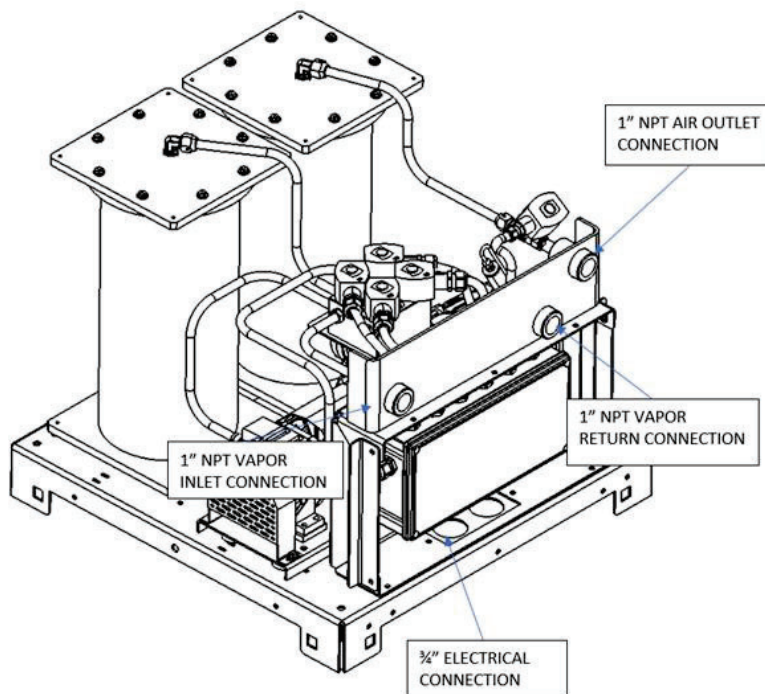

Figure 7-7: GREEN MACHINE Operation Diagram
6. During the 60-second Run Cycle: **See Figure 7-7.**
8. During the 60-second Purge Cycle: **See Figure 7-7.**